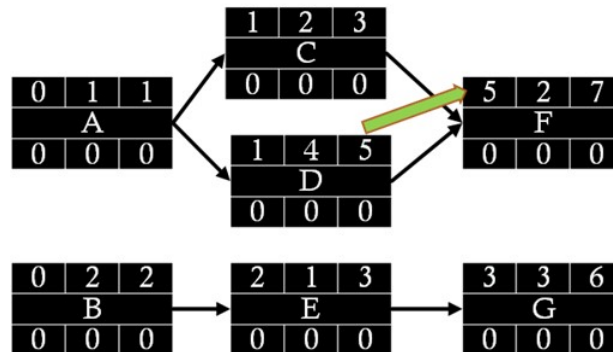

Figure 3.14: Passing predecessor ES times at merge points
- At a merge point, as is the case when C and D merge at F, we pass the highest EF time of predecessors (C and D) to the successor activity (F) (Figure 3.14). EF time of D becomes ES time for F.